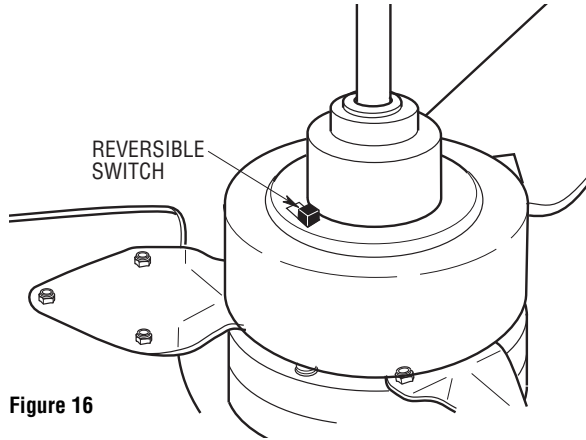

Figure 16
- 3. All fans are shipped from the factory with the reversing switch positioned to circulate air downward. If airflow is desired in opposite direction, turn your fan OFF and wait for the blades to stop turning, then slide the reversing switch to the opposite position, and turn fan on again (Figure 16).